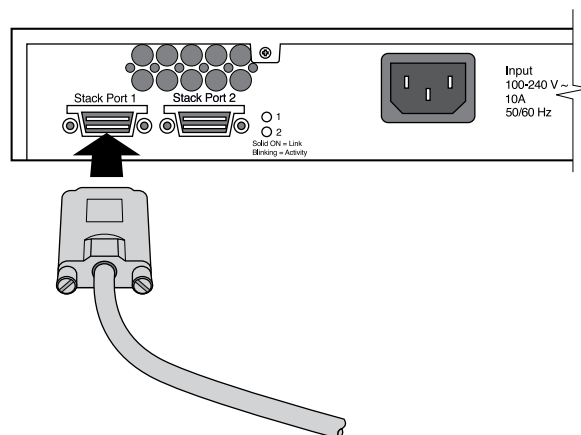

Figure 242: Connecting the 20G Connector
- a. Align the cable connector with the stacking port connector on the rear of the switch (see Figure 242).